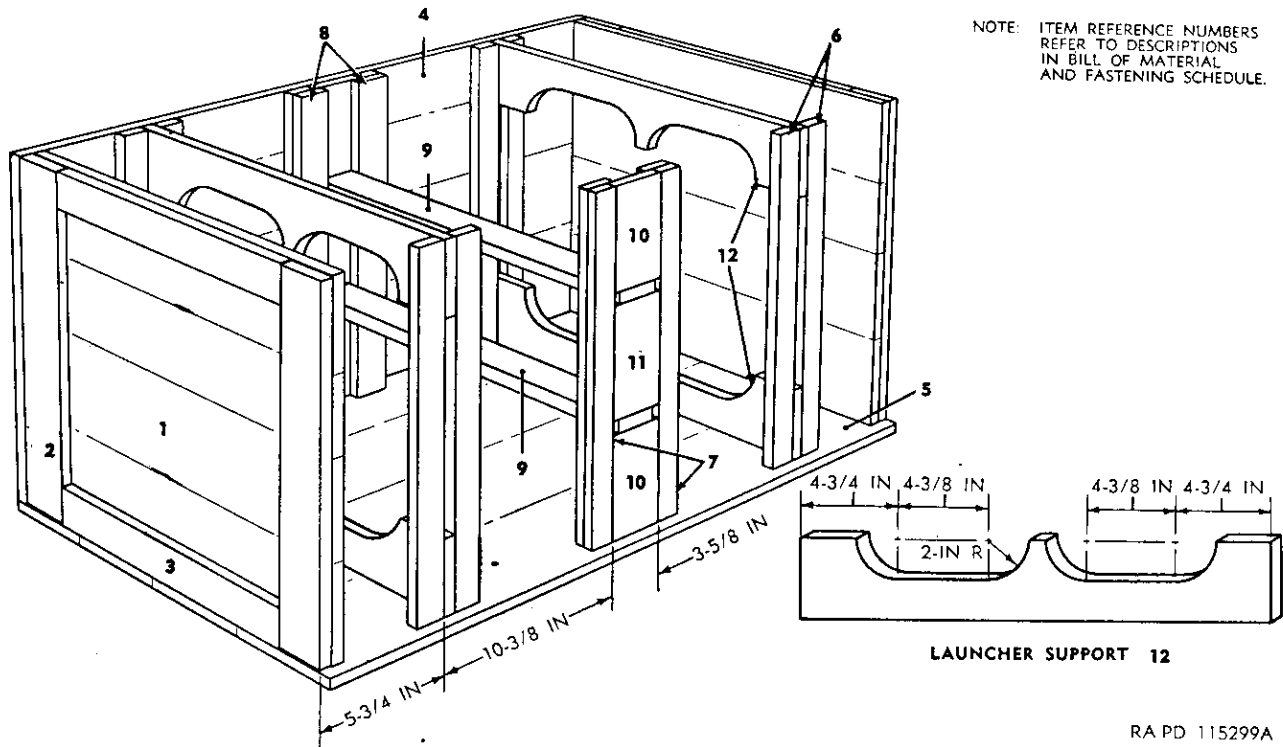

Figure 46. Packing box for four 3.5-inch Rocket Launchers M20 or M20B1.
- (1) *Trial pack.* Before constructing a quantity of these boxes construct a trial pack and adjust the dimensions of the container or blocking, if necessary.
- (2) *Type of container.* The box is constructed as a style 2 nailed wood box. For additional basic information on nailed wood boxes refer to TM 9-2854.
- (3) *Cushioning material.* Apply suitable cushioning material, such as felt or flexible corrugated fiberboard, where contact is made between launchers and wood supports, to prevent movement and abrasion.
- (4) *Packing box.*
- (b) *Bill of material.* The bill of material required to construct one complete style 2 nailed wood box (fig. 46) is listed in table IV. The indicating numbers are those referred to in tables IV and V, and (d) below.
4. Position spacer blocks (11) in the tee-slots of side batten (7) and (8) so that they rest on spacer (9).
6. Place the remaining two launcher supports (12) and blocks (10) in position.
7. Insert one corrugated cushioning pad at each end of box between launchers and ends (1) (not shown in fig. 46).